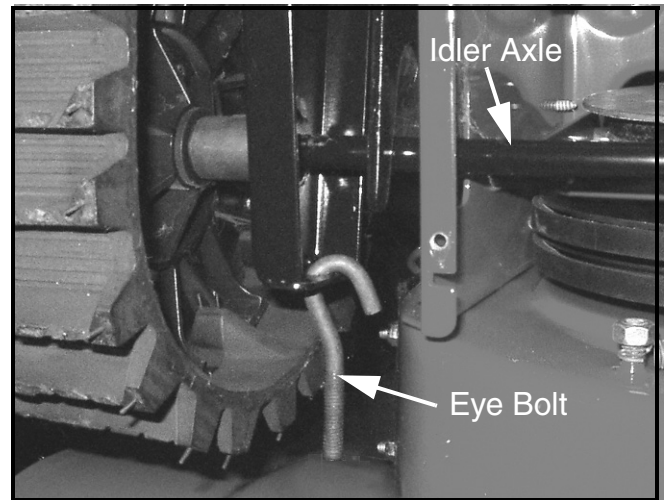

FIGURE 2
- Using a 1/2" deep socket and ratchet, remove the hex flange lock nuts on both of the idler axle tensioning eye bolts. Remove both eyebolts. Discard both flange lock nuts. See Figure 2.